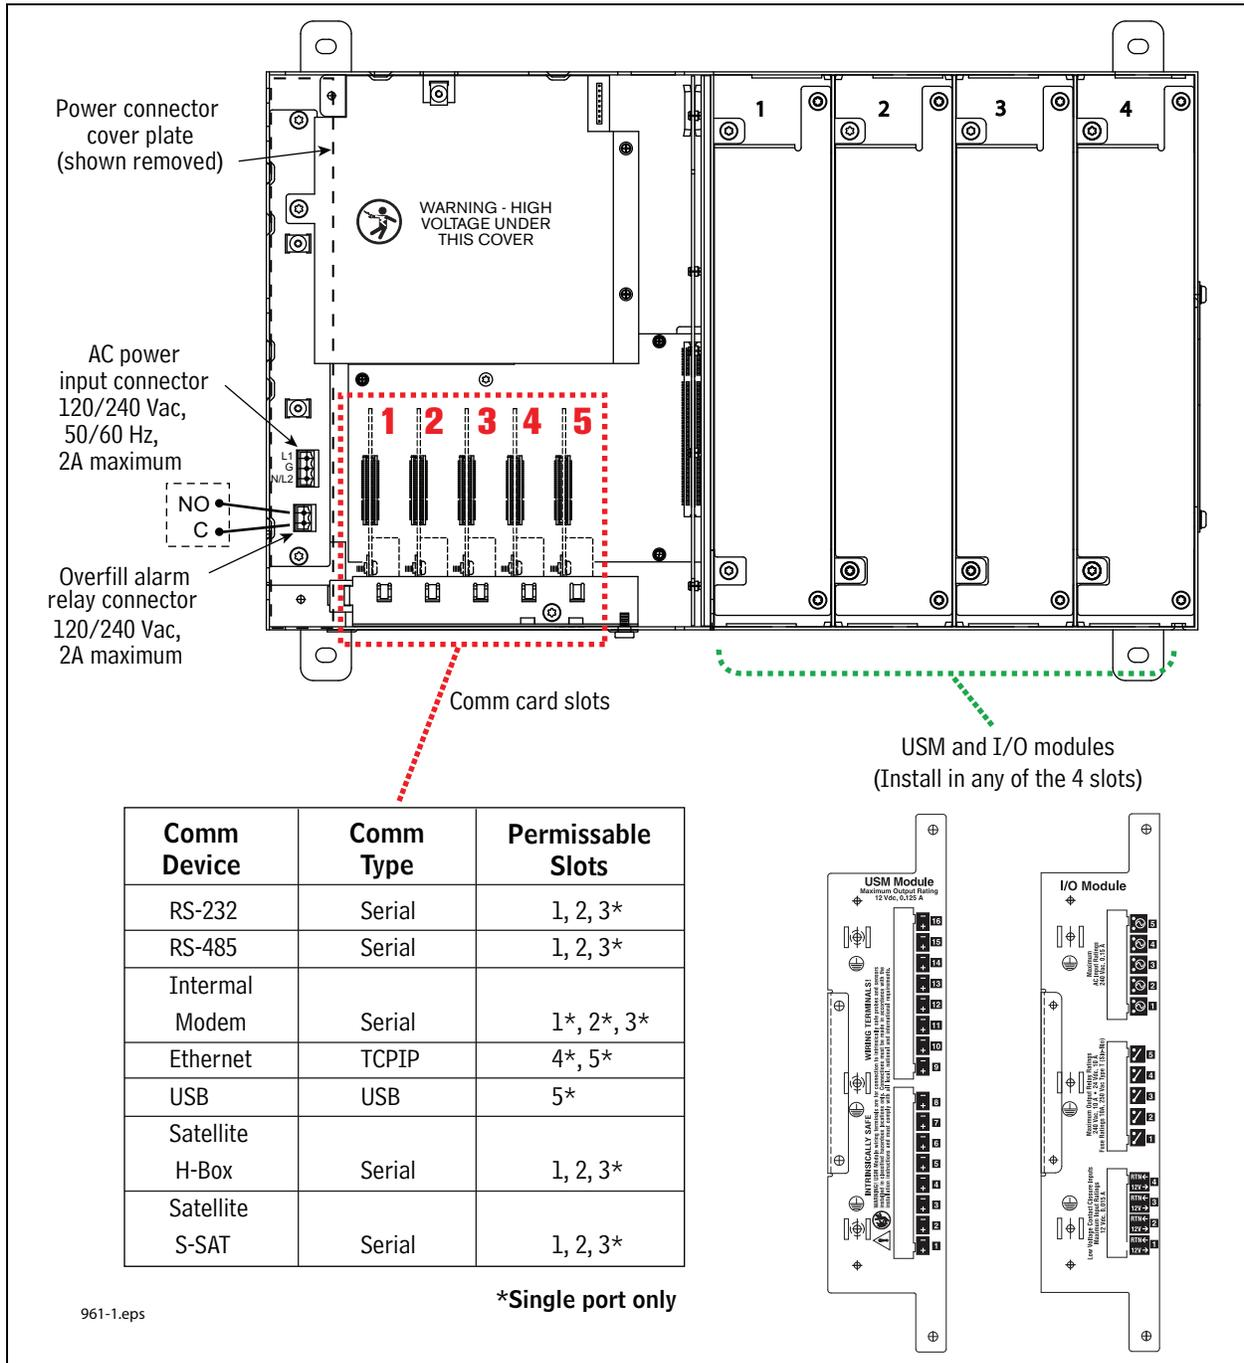

Figure 1. TLS-450 Console - Plug-in Module Compartments
The TLS-450 doesn't have any set slots for USM (probe/sensor) and I/O (relays, pump control, etc.) modules so you can use any of the four slots to accommodate existing intrinsically safe (USM) wiring or non-intrinsically safe (I/O) wiring (see Figure 1). The key is that there is only one knockout in the top of the console and one in the bottom for each of the 4 slots (see Figure 2). Since the I/O module and the USM module can be installed in any of these 4 slots, install them where it makes the most sense for conduit connections. Remember, unless you're going to use that top knockout, you need ALL intrinsically safe wiring to come through ONE conduit.
1. With the left of the console open, remove the two screws that attach the power connector cover plate (see Figure 1).